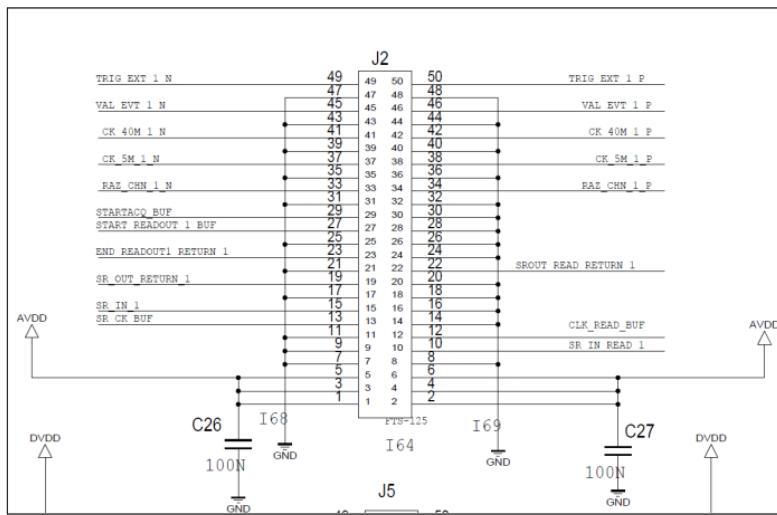

Figure 1.21: J2 connector pin-out
2. Then take a 50 pins flat cable (that you are then going to connect to the J2 connector). Cut in the middle the wires number 13, 49 and 50 (SR_CK_BUF, TRIG_EXT_N and TRIG_EXT_P respectively). Refer to Figure 1.21 for the flat cable pin-out. Strip the “ASU end” of these wires. By ASU end I mean the end that is not to be connected to the interface but to the ASU. If needed do the same for the other flat cables coming out the connectors J6, J8 and J10.